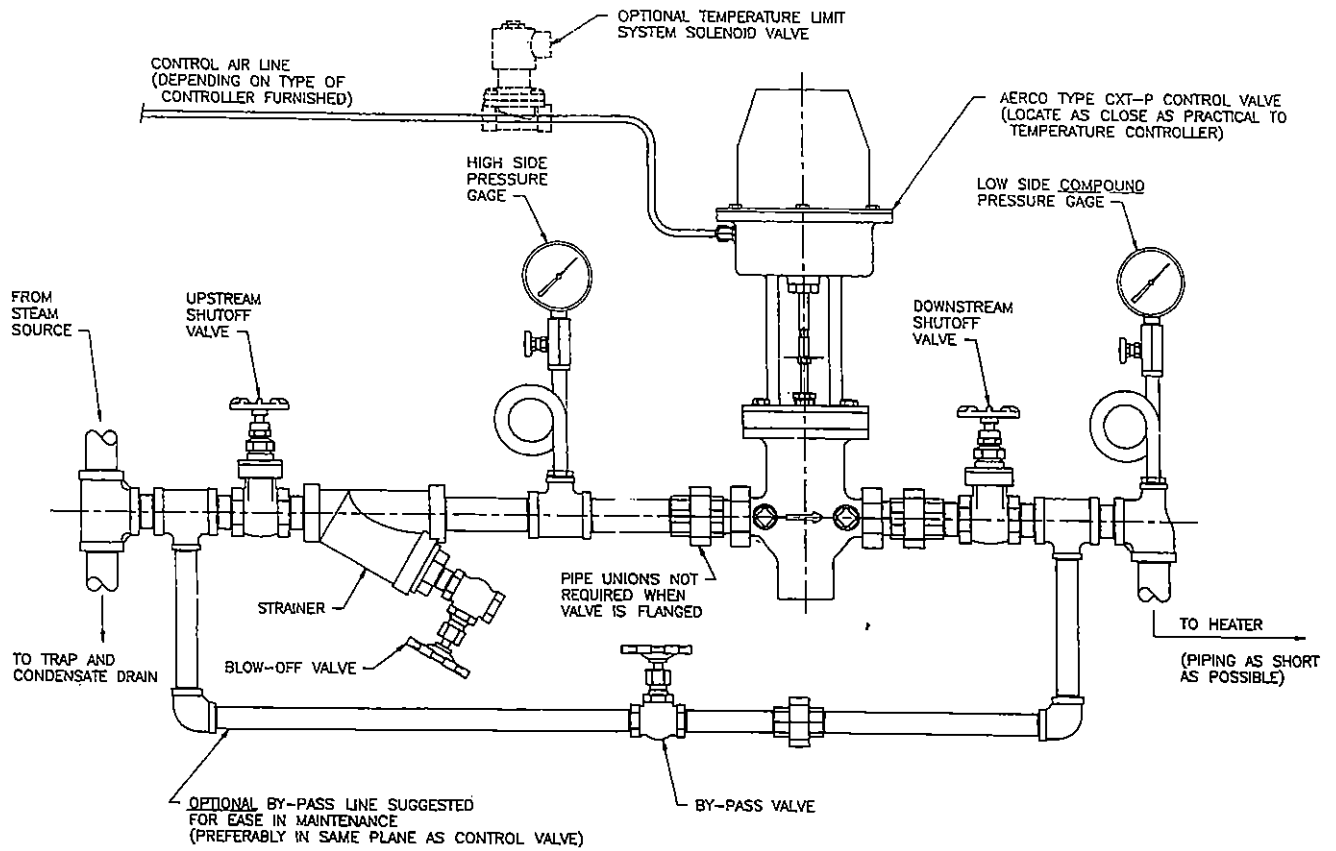
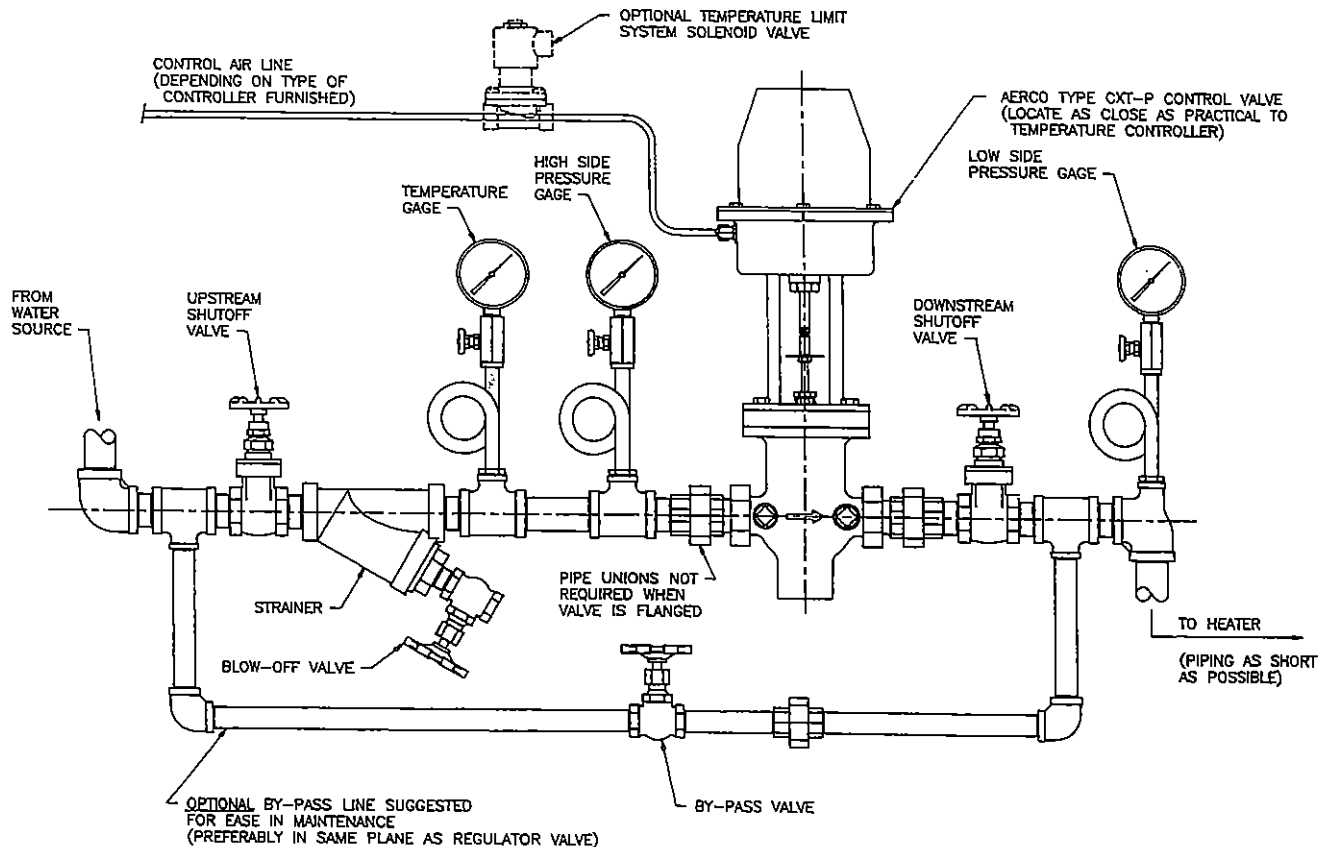
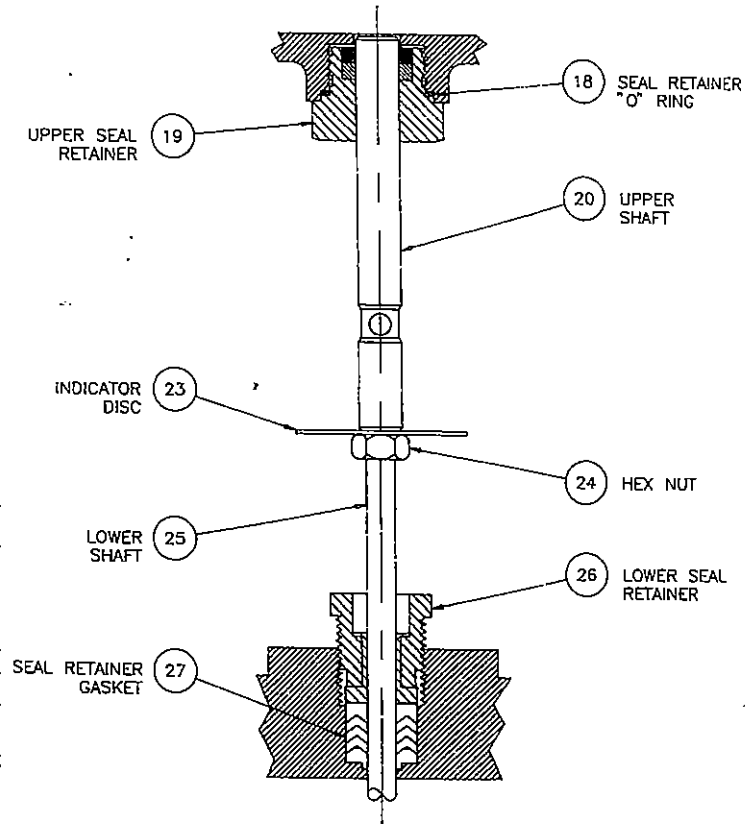

Figure VA-106-2 -- Recommended Installation for Control Valve, Type CXT-P for STEAM FLOW
Figure VA-106-3 -- Recommended Installation for Control Valve, Type CXT-P for HIGH TEMPERATURE HOT (BOILER) WATER FLOW
Figure VA-106-4 -- Valve Stem Adjustment and Seals
Accessories required for use with the AERCO Pneumatic Control Valve generally depend upon the application. Refer to the INSTALLATION instructions below and to the installation schematic drawing furnished by AERCO for the specific system requirements. However, accessories normally required, as shown in Figures VA-106-2 and VA-106-3, are:
1. See Figure VA-106-1 for dimensions. Install the Control Valve in accordance with Figure VA-106-2 for Steam Flow or Figure VA-106-3 for High Temperature Hot (Boiler) Water Flow, plus the following steps 2 through 16.
6. Install an in-line Strainer, as shown in Figures VA-106-2 and VA-106-3, ahead of the Control Valve to protect against foreign matter reaching the Valve when in service.
9. Pressure gages should be provided on either side of the Control Valve as shown in Figures VA-106-2 and VA-106-3. The gage on the high side is for adjustment and maintenance purposes. That on the low side should be a compound gage for Steam Flow and is for assuring that the correct pressure is being introduced to the Control Valve. For either Steam or Water Flow, the low side gage denotes the pressure of the fluid in the line which may create a hazardous condition.
10. A temperature gage should be provided in the high side of a High Temperature Hot (Boiler) Water line, as shown in Figure VA-106-3, for adjustment and maintenance purposes.
11. The optional By-Pass Line shown in Figures VA-106-2 and VA-106-3 should be included if it is necessary to keep the AERCO Heater with which the Control Valve is being used must be kept in operation while the Valve may be out of service for maintenance. The Shutoff Valve in the By-Pass Line should be a manually operated metal seated globe valve.
15. If your system includes an Over-Temperature Limit System, install its Solenoid Valve in the control air line as shown in Figures VA-106-2 and VA-106-3 and as described in the instruction included with and covering the Limit System (the Solenoid Valve may be installed already in a control box mounted on the Heater). Before proceeding with any further adjustment or operation, set the Limit System's Temperature Switch at 15 to 20 degrees F above the desired Heater hot water outlet temperature.
- OP1. Refer to Figure VA-106-2 for Steam Flow or Figure VA-106-3 for High Temperature Hot (Boiler) Water Flow. To place the Control Valve and Heater System into automatic operation:
- See Figure VA-106-4. Check the Upper Seal Retainer (19) for leakage of air and the Lower Seal Retainer (Packing Nut) (26) for leakage of steam or hot water.
- If there is leakage between the Upper Retainer (19) and the Actuator (Air Top) Body (17) or between the Lower Retainer Packing Nut (26) and the Valve Top (31), tighten the leaking Retainer until the leakage stops, but DO NOT FORCE the Retainer. If tightening the leaking Retainer does not stop the leak, the faulty Retainer and O-Ring or Packing must be replaced in accordance with the instructions given below under CORRECTIVE MAINTENANCE.
- If there is a leakage between either Retainer and the Valve Shaft (20) or (25), the leaking Retainer is faulty and must be replaced in accordance with the instructions given below under CORRECTIVE MAINTENANCE.
- Clean the Strainer in the steam or heating fluid line (see Figure VA-106-2 or VA-106-3) in accordance with instructions furnished with the Strainer.
- All connections and hookups are in accordance with Figure VA-106-2 or VA-106-3 and installation steps 1 through 16, and that ALL CONNECTIONS ARE TIGHT.
- T10. The Upper and Lower Shaft Seal Retainers may be binding (see Figure VA-106-4). Check the Seal Retainers. See steps CM1 through CM5 under CORRECTIVE MAINTENANCE below. Make any necessary adjustments or replacements.
See Figures VA-106-4 and VA-106-6.
- CM10. With the complete Control Valve/Heater system in operation (hot water in the Heater), close the heating fluid shutoff valve on the DOWNSTREAM side of the Control Valve (see Figure VA-106-2 or VA-106-3), make sure that the by-pass valve (if any) is closed tight, and leave the upstream shutoff valve open so that full line pressure is applied to the Control Valve body.
- CM14. To INCREASE the Spring compression (see Figure VA-106-4):
- Loosen Hex Nut (24) under the Indicator Disc (23).
- Holding the Upper Shaft (20) with a 1/8-inch steel rod through the hole in the Shaft so that the Shaft does not turn, grasp the top of the Lower Shaft (25) close to the threads with pliers and turn the Lower Shaft COUNTERCLOCKWISE until the downward movement of the Shaft, as in Step CM12
CM15. To DECREASE the Spring compression (see Figure VA-106-4):